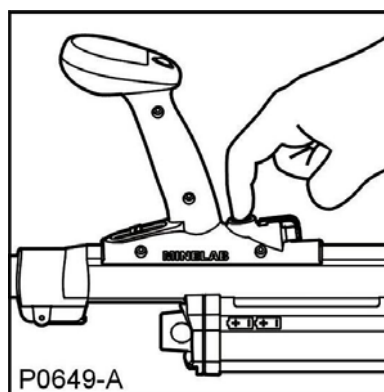

Figure 4: Noise Cancel
- Press and immediately release the Noise Cancel button. (Figure 4)